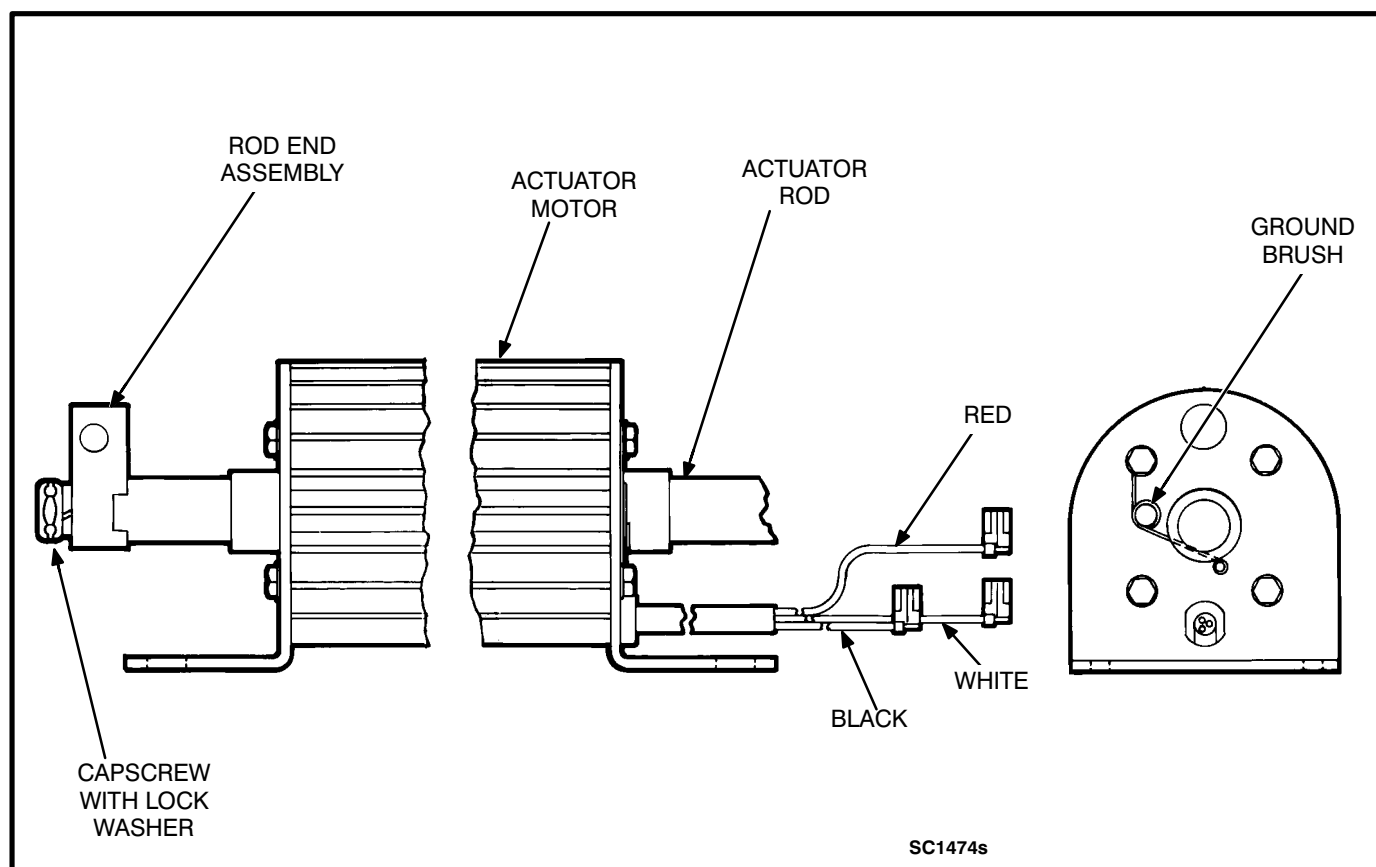

FIGURE 4-17. LINEAR ACTUATOR (800 - 1000 AMPERES)
7. Insert the actuator rod into the replacement actuator motor (Figure 4-17). Hold the actuator ground brush up slightly to allow passage of the actuator rod.